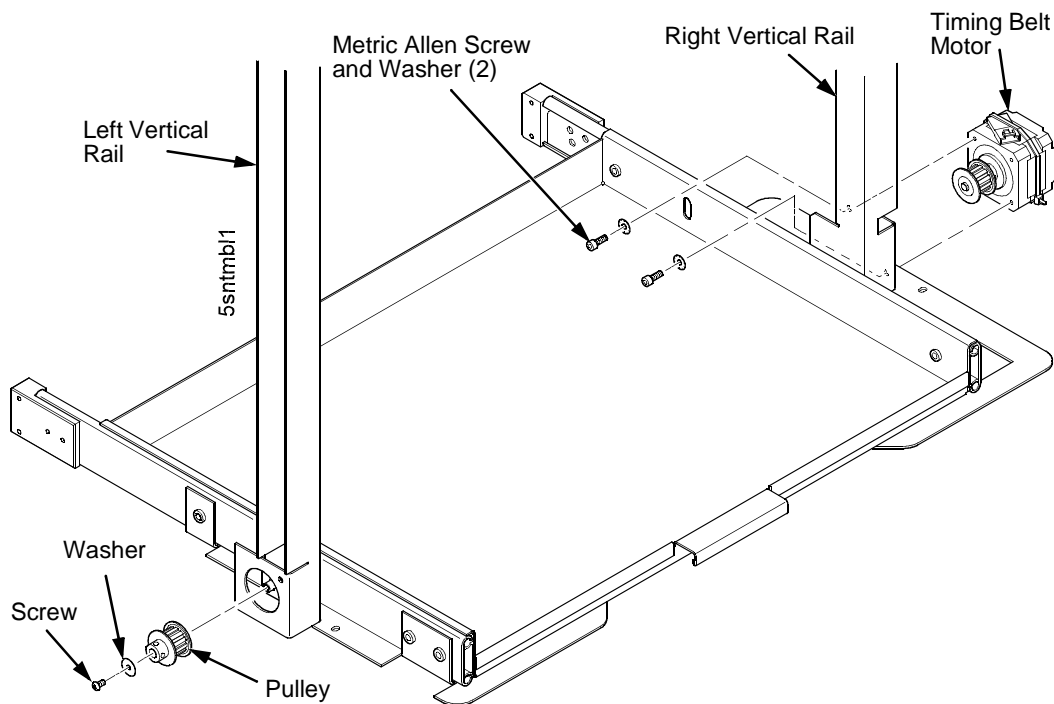

Figure 89. Removing the Timing Belt Pulley and Motor
3. If you are removing the left timing belt, remove the screw and washer from the pulley at the bottom of the left vertical rail, and remove the pulley. (Figure 89.) Go to step 6.
4. If you are removing the right timing belt, remove the two metric Allen screws that secure the timing belt motor to the right vertical rail. (Figure 89.) Go to step 5.